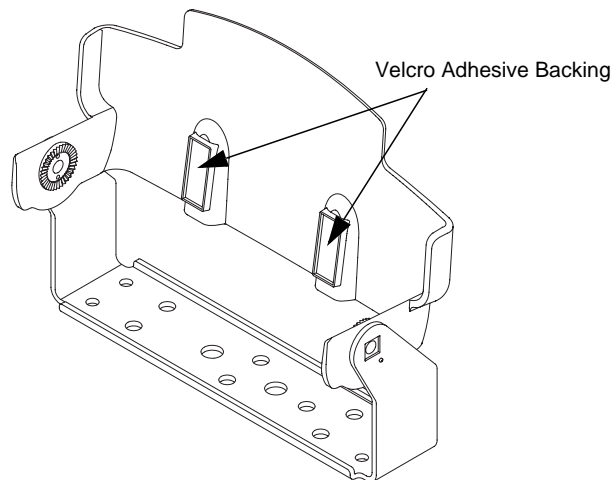

Figure 5-19. Position the Sunshield
2. Position the sunshield as shown in Figure 5-19 and remove the Velcro adhesive backing.